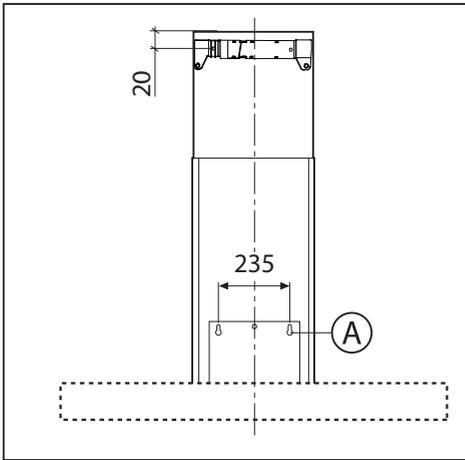
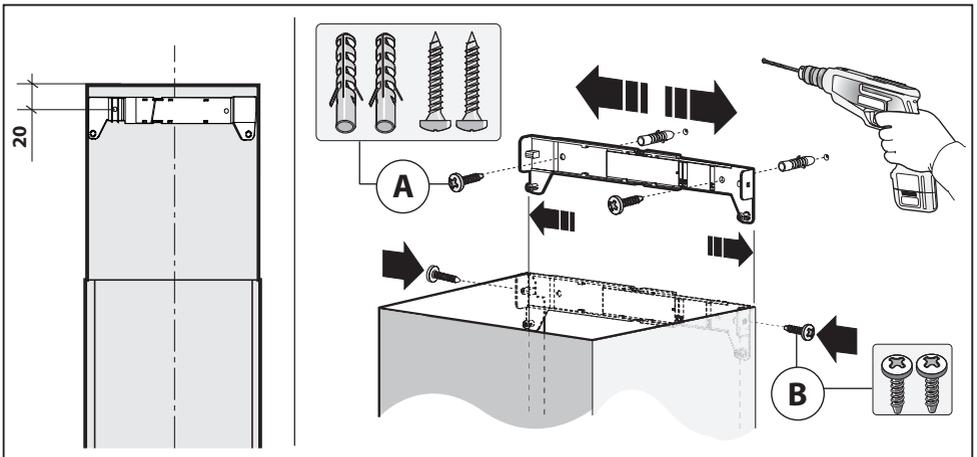

Fig.2
Fig.4
-Drill the holes **A** respecting the distances indicated (Fig.2).
-Adjust the width of the support bracket of the upper flue (Fig.4).
-Then fix it to the ceiling using the screws **A** (Fig.4) in such a way that it is in line with your hood and respecting the distance from the ceiling indicated in Fig.2.